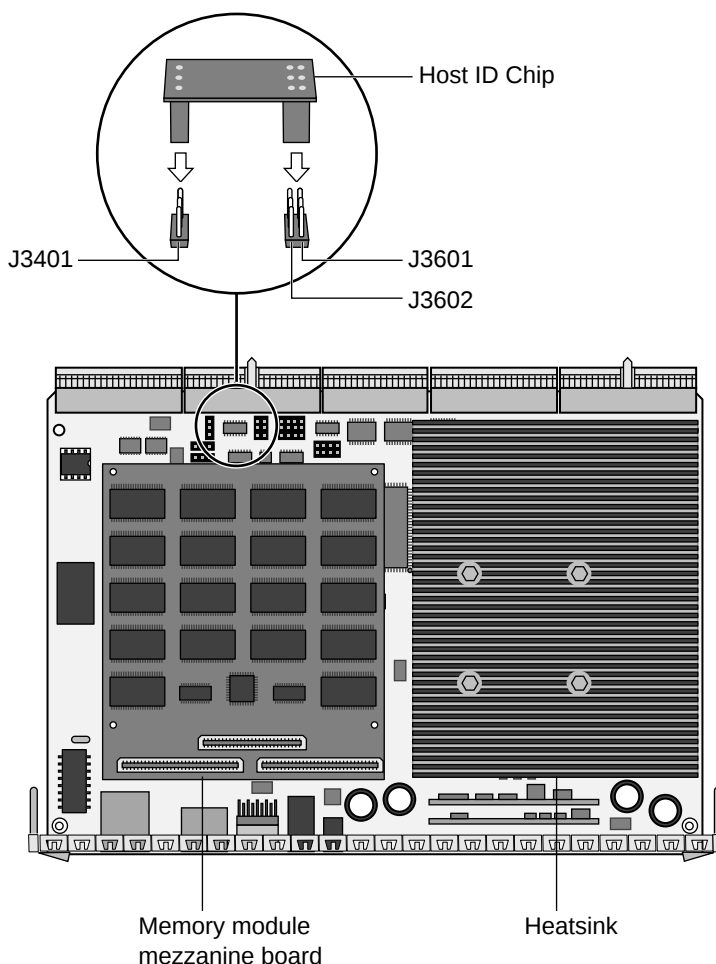

FIGURE 10-1 Location of the Host ID Chip on the Motherboard
If you ever need to replace an entire Netra t1, you can re-use the old system's MAC address and serial number in the new system. This information is stored on the motherboard in a removable component called the Host ID chip (see FIGURE 10-1). To transfer them to a new system, do the following:
1. **Remove the Host ID chips from both the new and the old systems (to identify the chip, see FIGURE 10-1).**